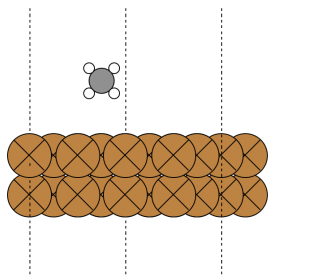

Figure 2: Physisorption of CH₄ on Cu(111) in the XZ-plane.
From Figure 2, it is clear that the CH₄ molecule is physisorbed because it is not directly attached to the Cu (111) surface. The gap between the Cu(111) surface and the CH₄ molecule is due to the weak Van der Waal's forces as a result of physisorption.